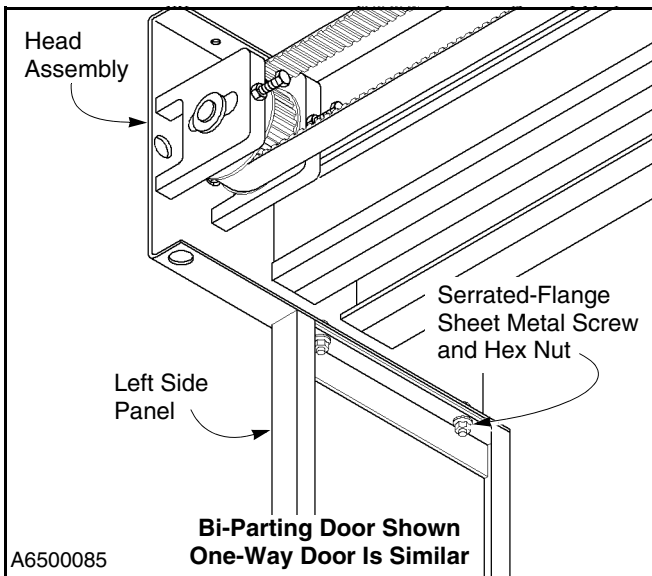

Figure 17
4. Check that the pair of serrated-flange sheet metal screws and hex nuts used to join each side panel to the head assembly are in place and tightly secured. Tighten and replace any loose or missing hardware. (See Figure 17.)